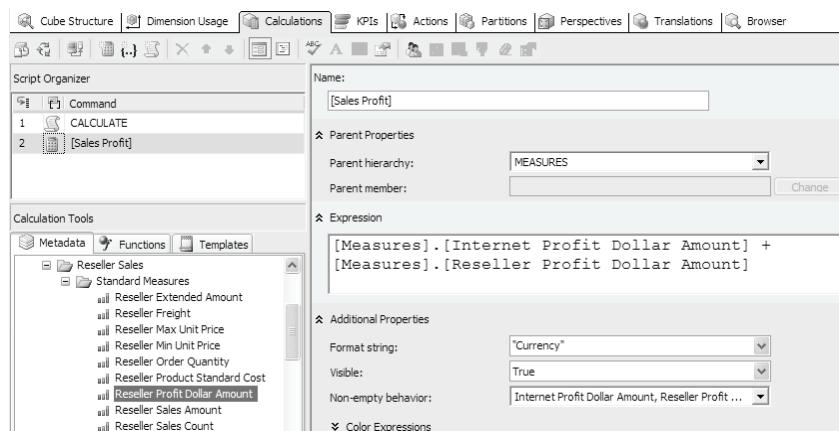

Figure 9.13 Creating a new calculated member using the Form View mode.
7. A calculated member can be formatted with pre-defined or custom format strings. In the *Format string* dropdown, select *Currency* to format the Sales Profit measure as a currency (see Figure 9.13).